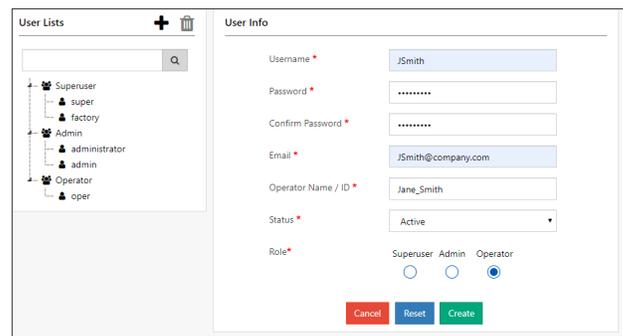

Figure 138: Create new user
2. In the User Info section (Figure 138), enter the information for the user: